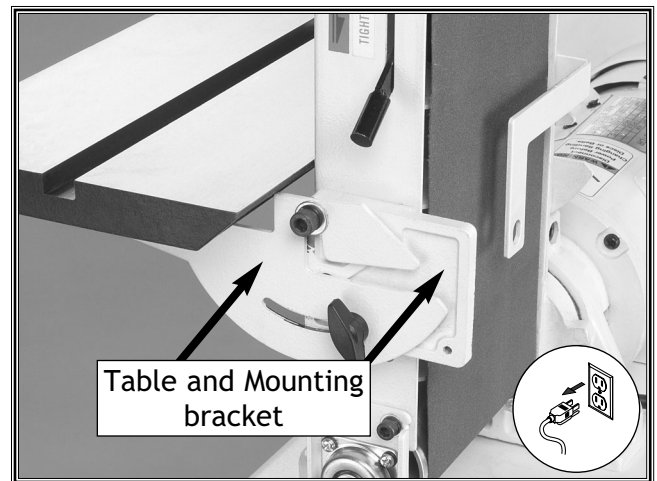

Figure 24. Table and mounting bracket.
3. Remove the table and mounting bracket from the belt sander (Figure 24).